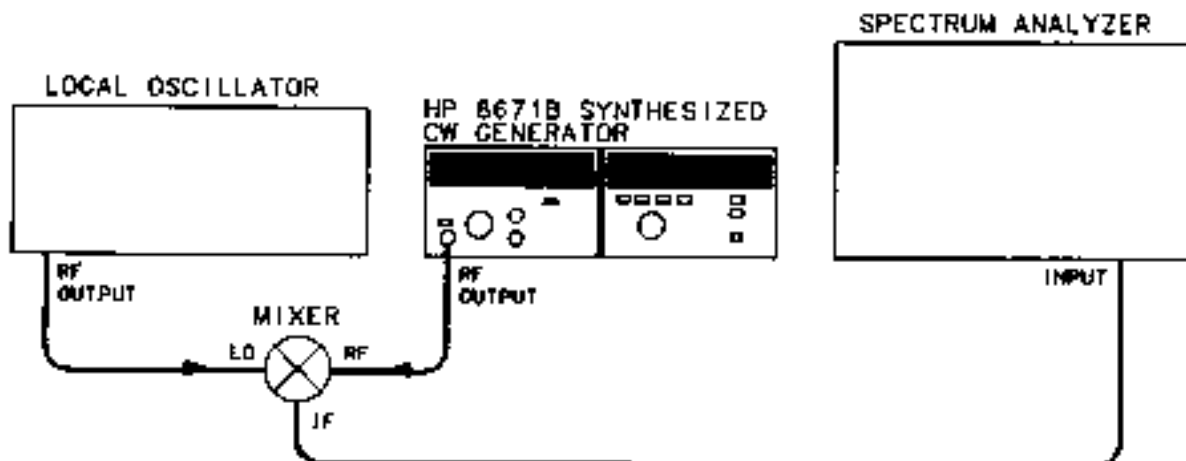

Figure 4-12. Single-Sideband Phase Noise Test Setup
- Connect the equipment as shown in Figure 4-12.